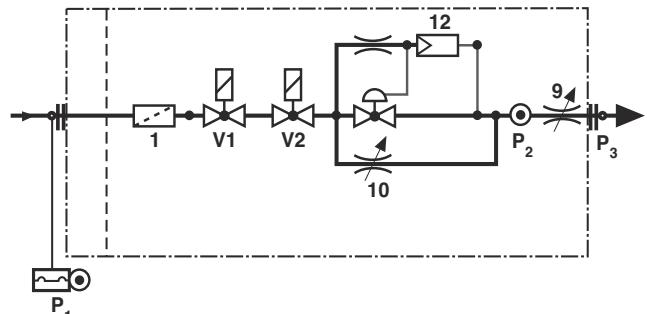

Fig. 9
A. measuring nozzle P2 (Fig. 9) before valve D
C. startup valve (no. 10 in Fig. 9)
D. maximum flow rate valve (no. 9 in Fig. 9)